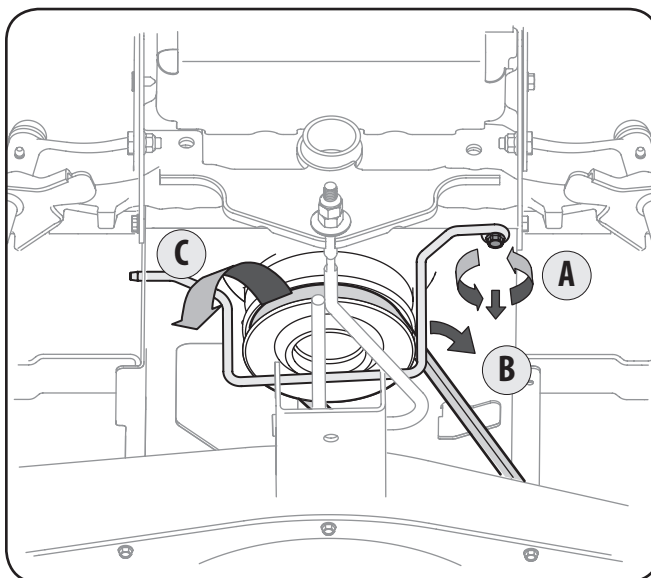

Figure 7-2
4. Remove the belt-keeper rod, from around the tractor's engine pulley, by removing the self-tapping screw (A) that secures it. See Fig. 7-2.
5. Remove the belt (C) from around the tractor's engine pulley and idler pulley(s). See Fig. 7-2.
1. Remove the belt-keeper rod, from around the tractor's engine pulley, by removing the self-tapping screw (A) that secures it. See Fig. 7-2.
3. Remove the belt (C) from around the tractor's engine pulley and idler pulley(s). See Fig. 7-2.